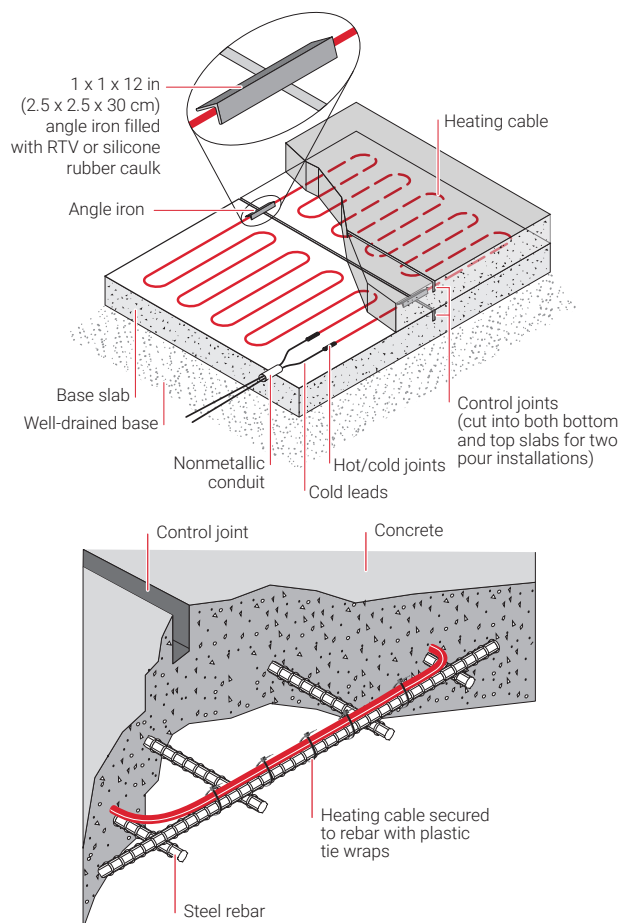

Fig. 7 Method of crossing crack-control joints with MI heating cable in concrete slabs
1. Crack-control joints (sawcuts) are intended to control where the slab will crack. Their exact location is determined by the concrete installers before the concrete is poured. Because of the reinforcement in the base slab, there is rarely a shearing action caused by differential vertical movement between the concrete on either side of the crack. As a precautionary measure, however, either of the two methods of crossing control joints shown in Fig. 7 should be used. Minimize the number of times the joint is crossed as shown in Fig. 7. When installing cables using the two-pour method, control joints must be placed in both the base slab and the surface slab.
2. Construction joints are joints that occur when the concrete pour is going to stop but will resume at a later date. Therefore their location may not be known beforehand. However, the rebar is left protruding out of the first pour so that it enters the next pour and therefore shearing action rarely occurs due to differential vertical movement between the concrete on either side of the joint. As a precautionary measure, either of the two methods of crossing control joints shown in Fig. 7 should be used.
Cold leads may cross expansion joints provided that they are fed through nonmetallic conduit to protect against shear (see Fig. 7).
- When crossing crack-control joints, protect the cable as shown in Fig. 7 or design for a sufficient number of heating cables to avoid crossing control joints altogether.